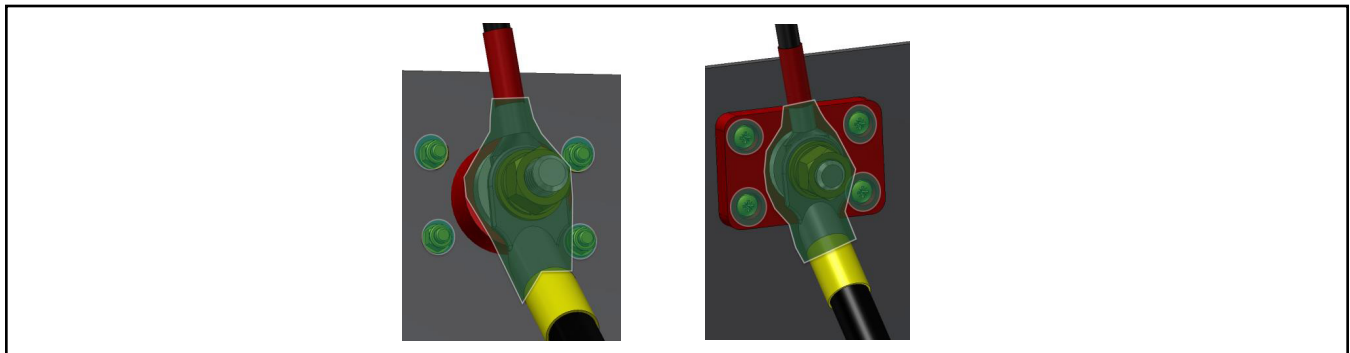

Figure 14 - Figures showing the Application of Corrosion Preventative Product Inside the Marked Perimeters
- 2.19. Depending on which junction block and on which side, different corrosion preventative products are applied, as indicated in the Shop Supplies material list (see Figure 14).